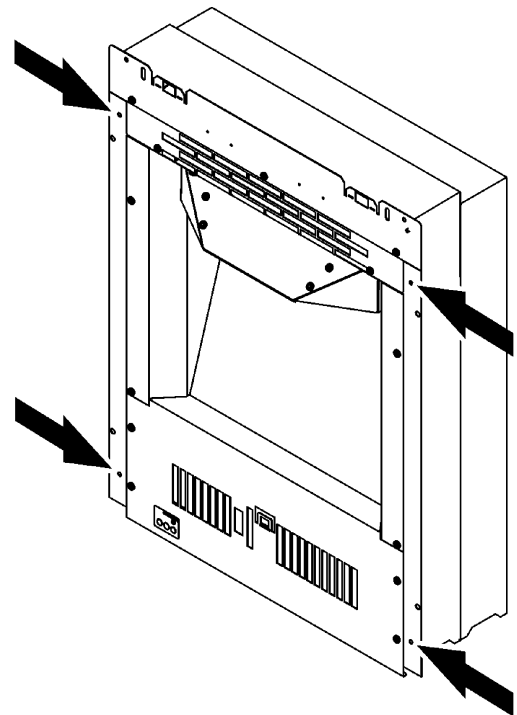

Figure 11. Fitting the optional spacer frame to the heater
Although this section deals with fireplace openings without a spacer, this method of securing the heater can also be used with the spacer frame supplied with the heater (See point 7 and figure 10 of method C). It can also be used with the optional spacer frame (See point 7 and figure 11 of method D).
1. There are four screws supplied with the optional spacer frame. The narrow flange of the optional spacer should be placed against the spacer supplied with the heater. Screw the optional spacer frame to the one supplied with the heater (See figure 11).
7. Secure the spacer frames to the heater using four No.8 x 3/8 screws supplied (See figures 11 and 5).
1. Secure the spacer frames to the heater as in steps 1 and 7 of METHOD D (See figure 11).